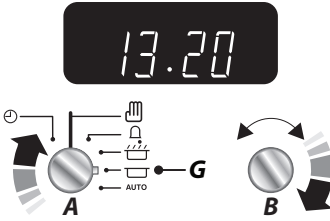

Fig. 2.11
3. Continue to turn the **Adjusting (B)** knob to the amount of time required e.g. 1 minute (**Fig. 2.11**).
5. Turn the **Timer (A)** knob to the **Auto (H)** setting (**Fig. 2.11**). If the display shows the current time and the word **'AUTO'** the Multifunction Oven is set to turn on and off.